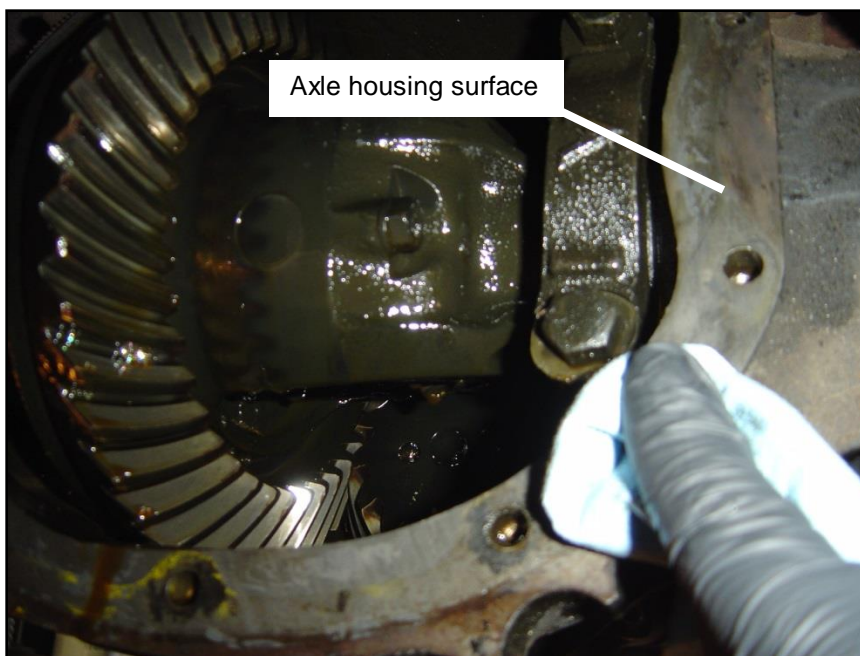

Figure 2
**STEP 8.** Clean all gasket material from the axle housing surface (See Figure 2).